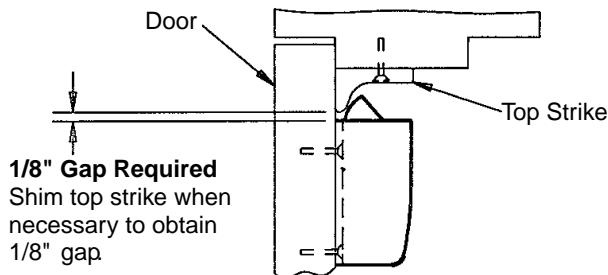

Figure 1
3. Slide guide and cover onto top rod and assemble retractor and middle hole in rod. (See Figure 1.) Adjust so that top case mounting holes line up with location marked when marking door with template.